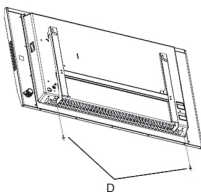

Fig.4
3. Fix the bracket assembly to the heater body with 2 screws (D), see Fig 4